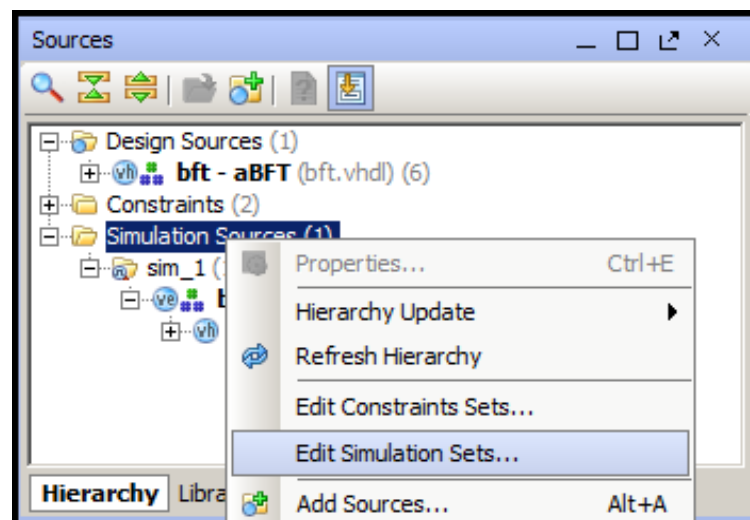

Figure 2-1: Edit Simulation Sets Option
1. In the Sources window popup menu, select **Simulation Sources > Edit Simulation Sets**, as shown in Figure 2-1.